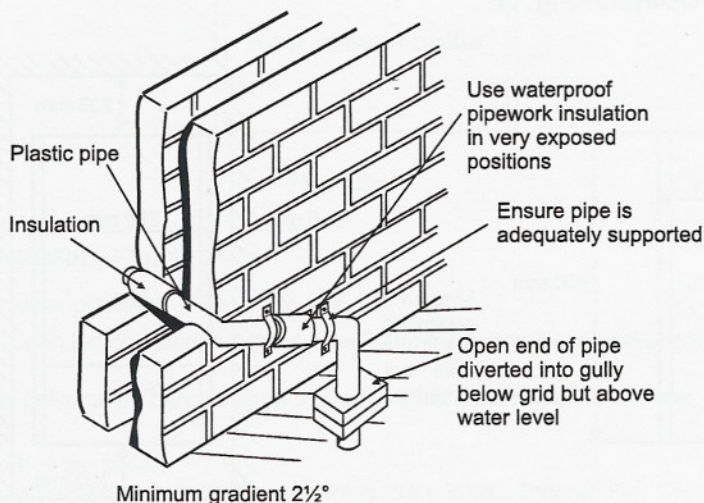

Fig. 8 - External gully
External pipe runs should be avoided, but if it is necessary, the pipework should be at least 32 mm and protected from the risk of freezing with a waterproof insulation and the length should be kept to a maximum of 3 m. Termination should be into an external gully or soakaway as shown in Figs. 8 and 9.
**Note:** All pipework must have a continuous fall (see Figs. 8 and 9) from the boiler and must be of an acid resistant material such as plastic waste pipe. (copper or steel is not suitable).